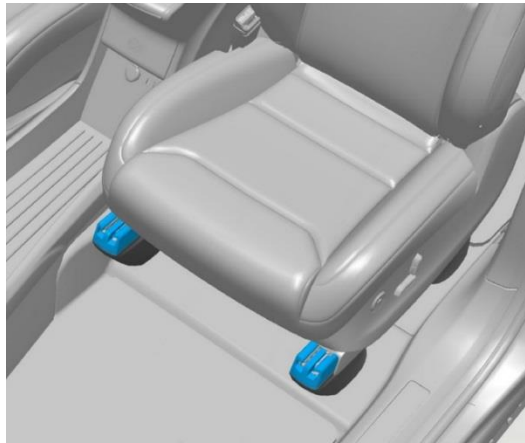

Figure 8. Front seat track covers
- b. Slide both seat track covers towards the front of the vehicle and remove them from the seat tracks (Figure 8).